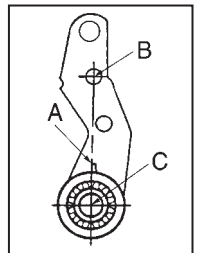

Figure 7
2. Tang of wrap spring (71) must be below, and must make contact with, wrap spring stop (76) when solenoid lever (28) is manually raised. If stop is bent outward, allowing tang to bypass it, rebend to square position, assemble correctly, and reset solenoid air gap as described in Paragraph 1.
3. Should air gap have decreased or disappeared, the solenoid lever and pinion assembly (8) may have become contaminated due to lubrication or residue as a result of overheating of brake. Cleaning is required. Loosen pressure spring nut (19) until pressure spring (11) is free. Remove support plate assembly (142). Remove cotter pin (8P) from solenoid lever (28) and retaining ring (131R) from pivot pin (131). Note location of spacer washer (138) if used, and push pivot pin out to free affected assembly. Remove retaining ring (32R) from pinion (32) and disassemble. Parts should be thoroughly cleaned in a clean solvent that does not leave a film M.E.K. or equivalent. Dry all parts thoroughly and reassemble. Rotate pinion and wrap spring clockwise until tang (A) is aligned with centerline of the upper hole of the lever arm. Refer to Figure 7. Reassemble in reverse order of Steps in this Paragraph. Do not retighten cap screw (19) until support plate assembly is mounted on endplate. Refer to Steps H and I of *Installation Procedure* to complete assembly.
4. Check condition and positioning of pinion (32) and rack (part of lever arm assembly